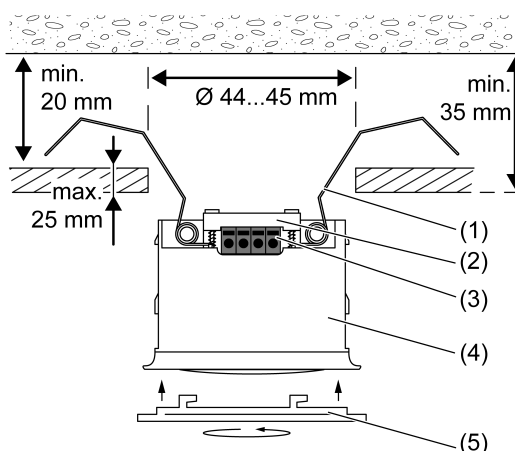

Figure 2: Mounting in the suspended ceiling
Max. thickness of the suspended ceiling approx. 25 mm. Installation depth min. 35 mm. Distance between concrete ceiling and suspended ceiling min. 20 mm (Figure 2).
- Create ceiling cut-out Ø 44...45 mm(Figure 2).
- Connect the connection cable to device connection terminal (3) (Figure 2).
- Secure the connection cable with the enclosed cable fixation (2) (Figure 2).
- Bend back the spring clamps (1) and push the motion detector (4) into the suspended ceiling (Figure 2).
- Attach the large design ring (5) and rotate it in clockwise direction (Figure 2).